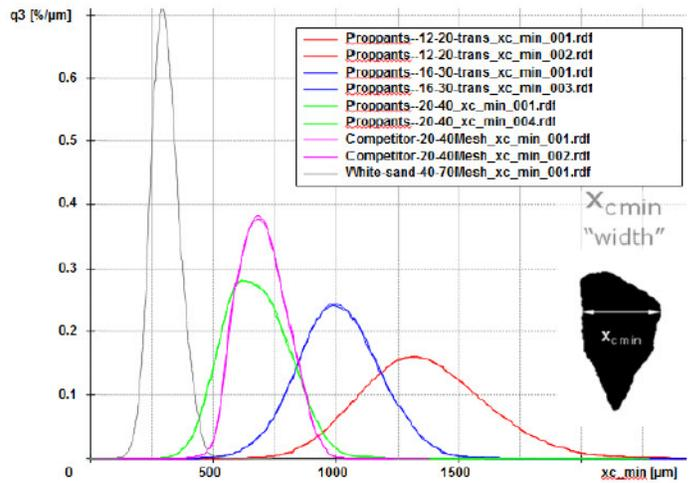

Figure 4: Size analysis of five different proppant samples
Several commercially available proppants were analyzed by the CAMSIZER to demonstrate the results that can be generated using this technique. A series of five different proppants were analyzed for size and shape distribution using the CAMSIZER. Figure 4 shows the size distribution using the xCmin (3) descriptor (minimum of maximum chords, typically the particle width) which best correlates to sieve results. Each sample was measured twice in order to show the reproducibility.